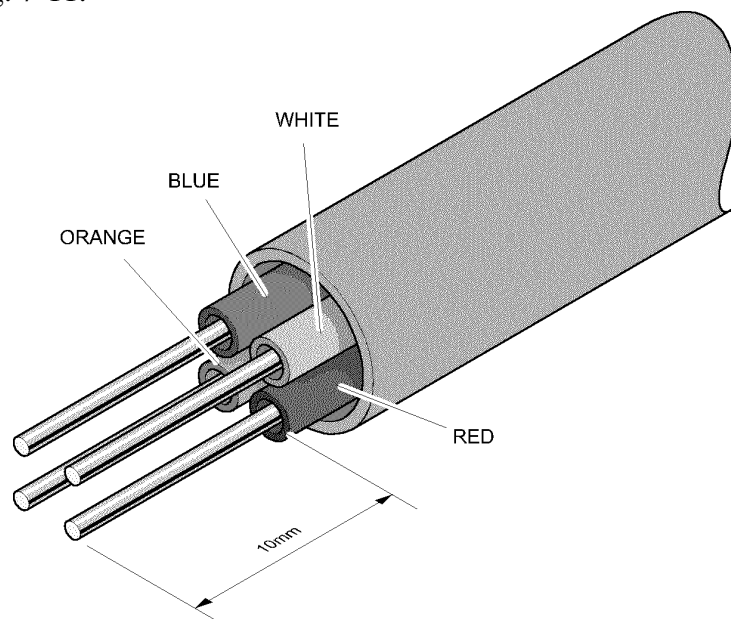

Fig. 7-11
4. Remove up to 10mm of insulation from each of the four colour coded cores, as shown in Fig. 7-11.